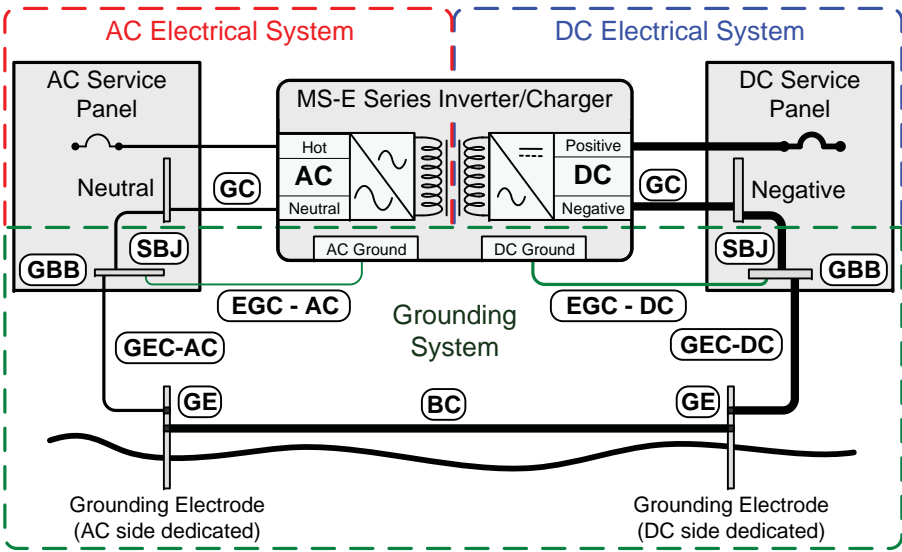

Figure 2-11, Multiple Connections to DC Ground Rod (Method 1)
**Method 1 (Figure 2-11):** This method uses a separate grounding electrode for the DC system and the AC system. In this method—since there are multiple connections to the DC grounding electrode (GE-DC)—the size of the DC grounding electrode conductor (GEC-DC) cannot be smaller than the largest conductor in the DC system (usually the battery-to-inverter cable).